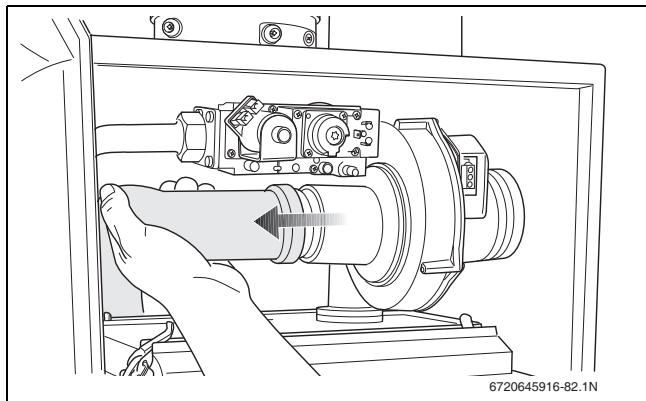

Fig. 84 Pulling the air suction tube from the fan
- Pull the air suction tube from the fan (→ fig. 84).